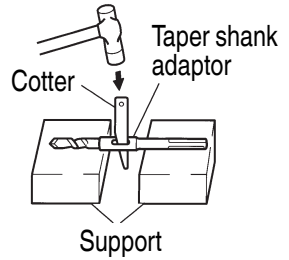

Fig. 22
- (4) To remove the drill bit with taper shank, insert a cotter into the slot of the taper shank adaptor, place supports under the Rotary Hammer and tap the cotter with a manual hammer. (Fig. 22)